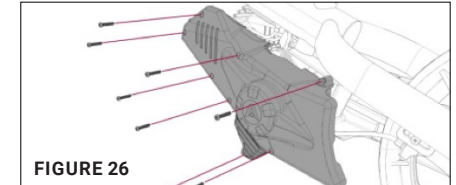

FIGURE 26
2. Remove the left side protective cover. [Figure 26]